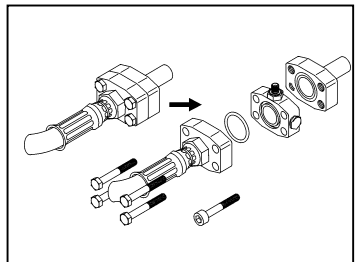

Figure 4
5. Replace the hose using the longer bolts provided in the kit. Take care to ensure the 'O' rings stay in place. Check the 1/8" BSP port is oriented to allow room to connect the hose (fig. 4).